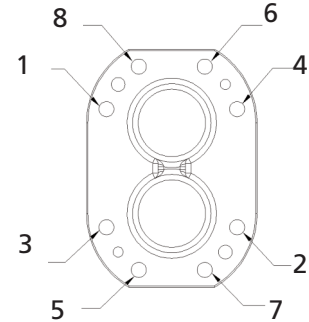

Figure 13. Bolt tightening sequence
6. Slide the cover over the dowel pin and replace the screws. Alternate tightening screw from top to bottom and side to side (Check fig 13)
5. Tighten the screw as per the bolt sequence mentioned in fig 13.